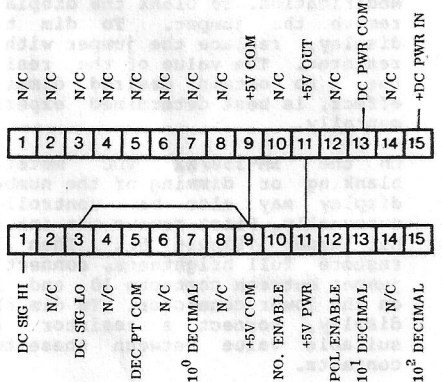

Figure 3. Connector Diagram for RM-350/XX VDC
3. WIRING. Figure 3 provides wiring information for the connectors. Connect contacts 9 and 11 of the upper connector to the corresponding contacts on the lower connector. Jumper pins 3 and 9 of the lower connector. Connect the DC voltage to be measured to contacts 1 and 3 of the lower connector (signal HI to 1 and signal LO to 3). To display a decimal point, jumper between contact 5 and contact 7, 13 or 15 on the lower connector, depending upon which decimal point is to be displayed. See below.